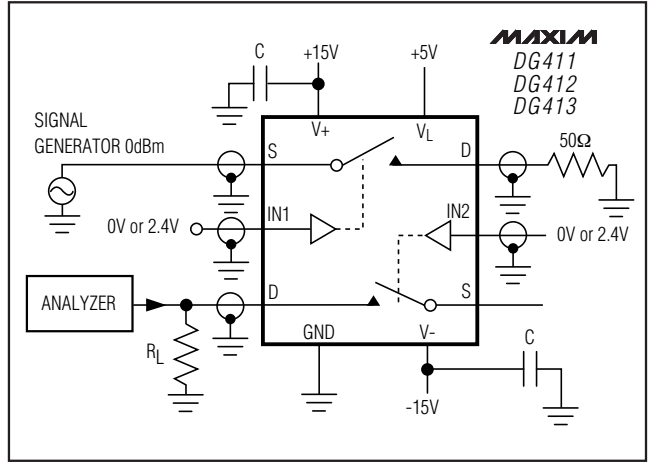

Figure 6. Crosstalk
**Note 6:** Between any two switches. See Figure 6.
**Note 7:** Leakage parameters IS(OFF), ID(OFF), and ID(ON) are 100% tested at the maximum-rated hot temperature and guaranteed by correlation at +25°C.